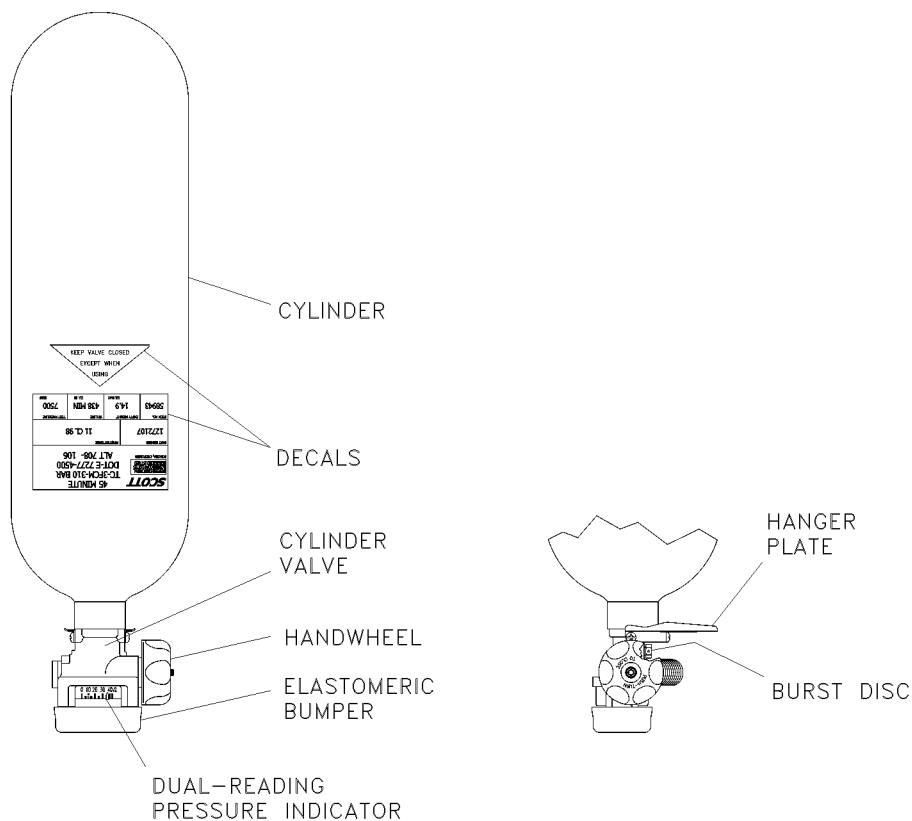

Figure 077-3-4. Cylinder Assembly Major Components
077-3.2.2.3 Cylinder Assembly. The cylinder assembly (Figure 077-3-4), when charged to 4,500 pounds per square inch gauge (psig), provides the user with a breathable air source for a rated duration of either 30 or 45 minutes.
5. Ensure hanger plate (Figure 077-3-4) is firmly secured by locking tab and cylinder band clamp is tightened to properly secure installed cylinder assembly.